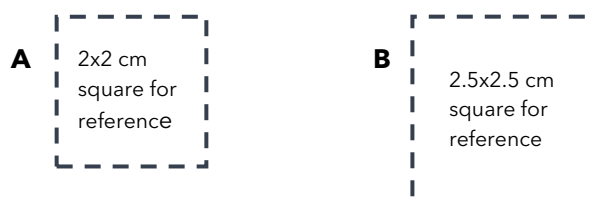

Figure 5. Reference size for **A)** Standard and **B)** Large
- Use scissors to cut a piece of Parafilm (**Standard: 2x2 cm; Large: 2.5x2.5 cm**) (Figure 5). Use tweezers to peel off the Parafilm backing and place the side previously protected by the backing onto the solution. Avoid introducing air bubbles.